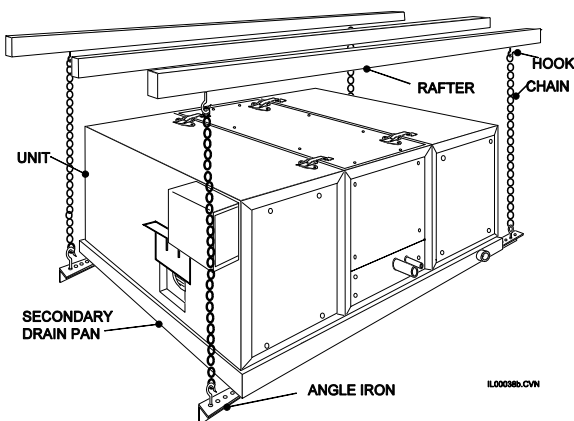

Figure 14. Typical Suspended Mounting
Horizontal Suspended Mounting. The modules can also be suspended from the ceiling or rafters. A typical suspension method is shown in Fig. 14. Screw four (4) “J” hooks into rafters. Suspend four (4) chains from “J” hooks and attach eyebolts to chains. Secure angle iron to eyebolts and place secondary drain pan on top. Put isolation pads in drain pan, making sure unit sits above sides of drain pan.